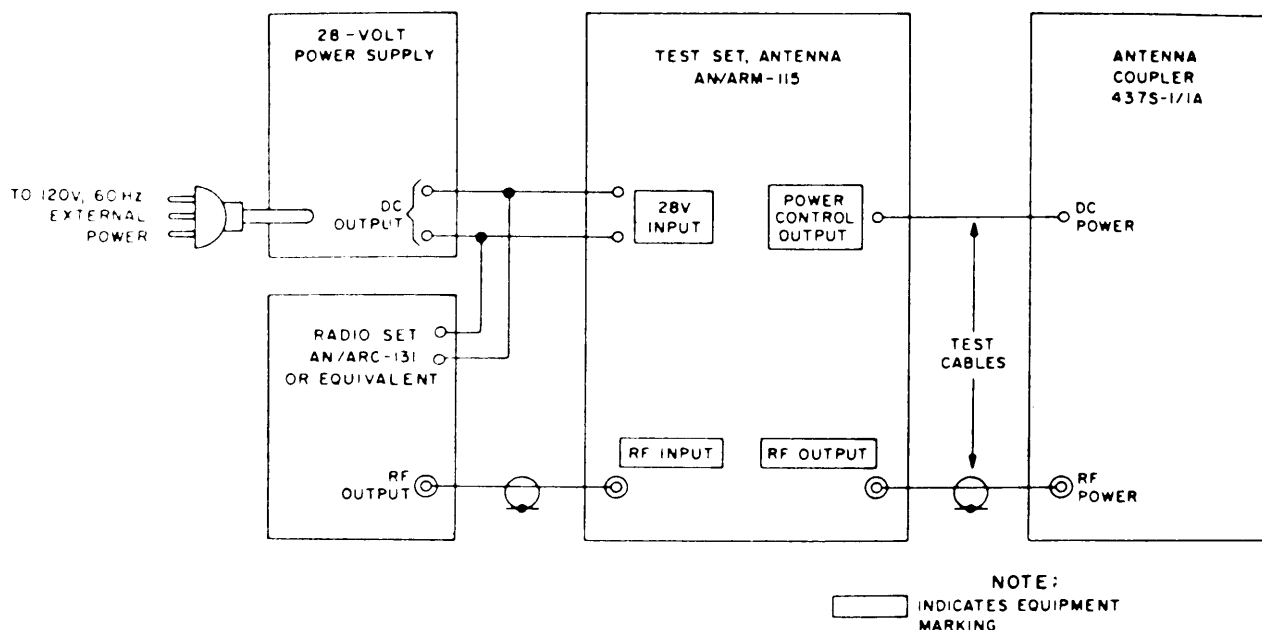

Figure 4-5. Coupler test, test setup.
(fig. 4-5)
- (1) Power supply, 28-volt dc.
- (2) Radio Set AN/ARC-131 or equivalent.
- (3) Antenna Coupler, 437S-1/1A.
b. *Test Connections and Conditions.* Connect the test equipment as shown in figure 4-5. Use the test leads supplied. Mount the antenna coupler on the ground plane supplied.
- (1) Power supply, 28 volt dc.
- (2) Radio Set AN/ARC-131, or equivalent.
- (4) Ground plane.
- (5) Test radome.
b. Test Connections and Conditions. Connect the test equipment as shown in figure 4-5. Use the test leads supplied. Insert the antenna coupler into the test radome and mount on the ground plane.